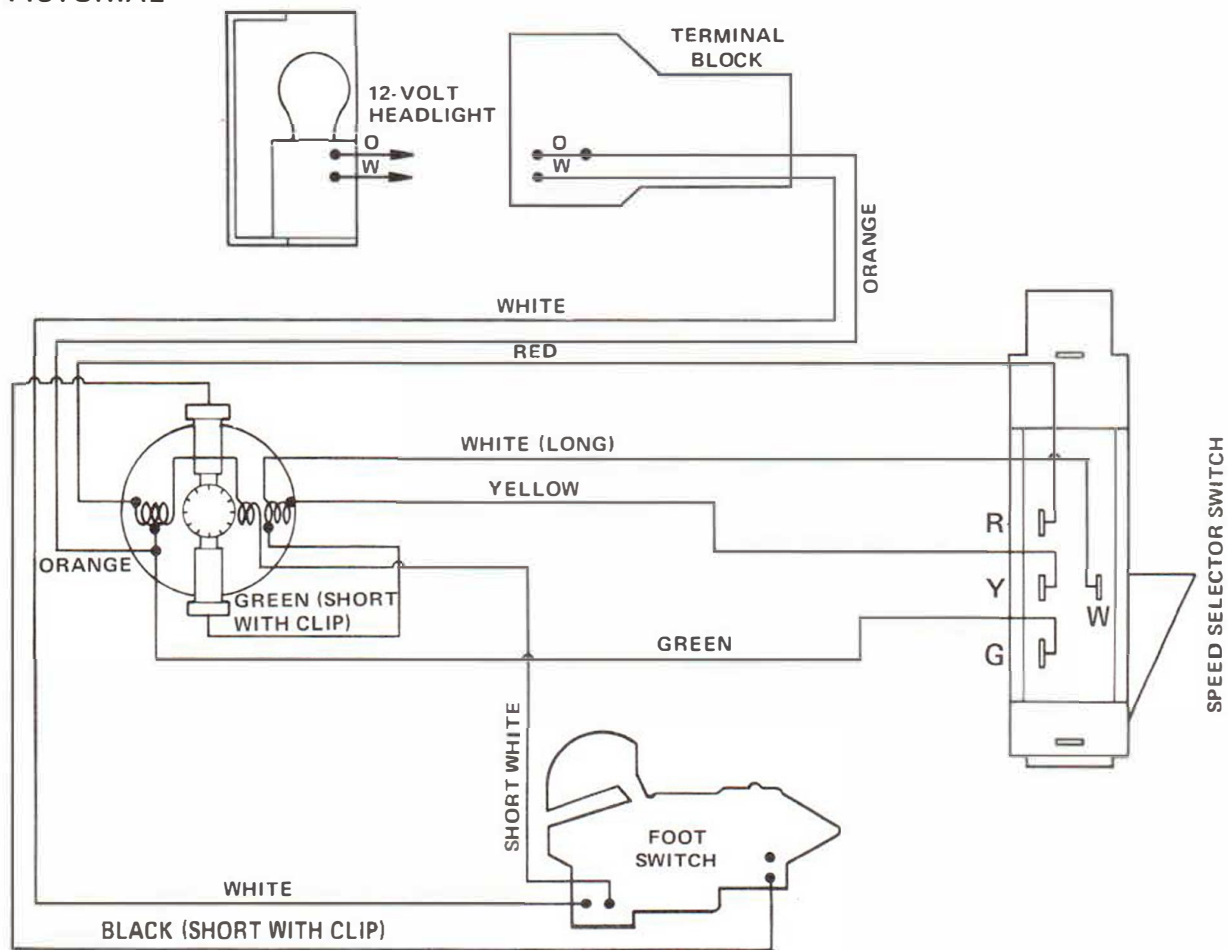
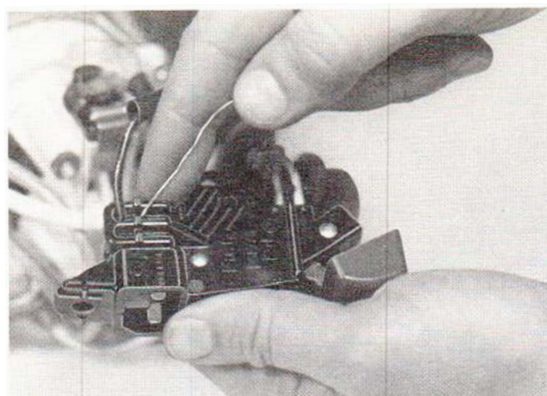

Figure 1-5. HERITAGE Models 1HD and 1HC wiring diagrams
Figure 1-6. Removing wires from foot switch
(1) Refer to figure 1-5 and note position of the wires. To remove the wires, fashion a tool by straightening one leg of a paper clip. Insert the paper clip into the release window next to each wire and pull out wire, as illustrated in figure 1-6.
(2) Tag each wire to facilitate reassembly.
(3) Install wires by pushing the bare ends of the wires into the proper switch recesses. If the wire end is damaged, clip off the end and strip insulation back about 1/4 inch. Tug gently on the wires to check for tightness.
(4) Replace housing shell and foot switch as described in paragraph 1-3c.